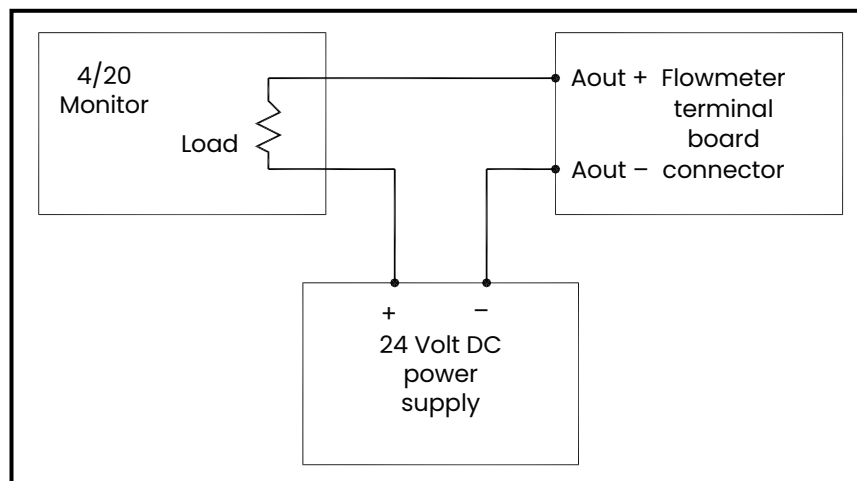
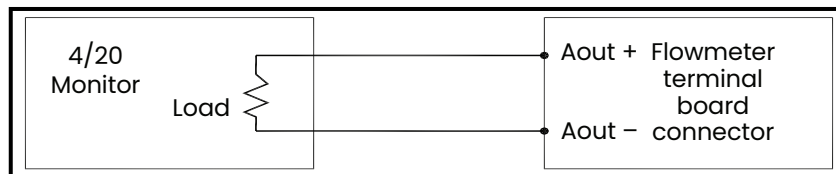

Figure 27: Analog output passive wiring
Figure 28: Analog output active wiring
3. Locate the 26-pin terminal block (**TB2**) shown in *Figure 30 on page 26*, and wire the I/O terminal as indicated on the label inside the wiring access cover (see *Figure 31 on page 27* and *Figure 29 on page 25*). For a wiring diagram see *Figure 27 on page 23* or *Figure 28 below*.